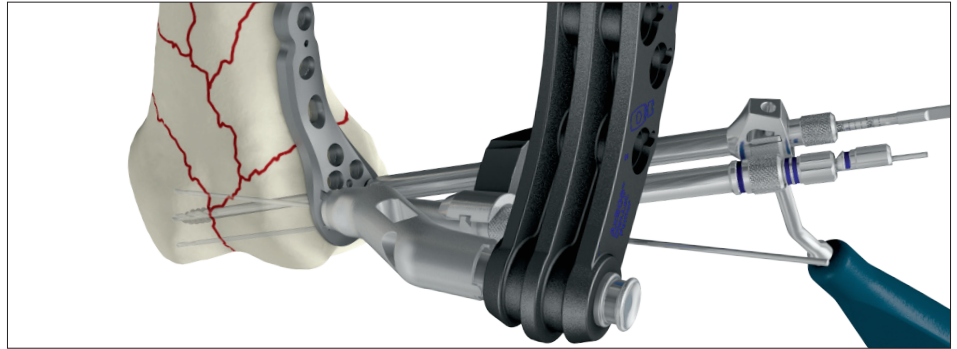

Fig. 17
Freehand placement of the screw(s) can be performed using the freehand tissue protection sleeve (ref 703546) together with the drill sleeve Ø3.2mm (ref 703535) (fig. 17).